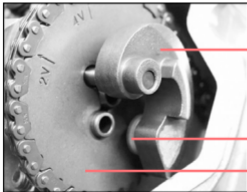

Fig. 6
- Slide off the eccentric mass **(Fig. 6 - part. 9)**, and be careful not to loose the little ring on this mass **(Fig. 6 - part. 10) (Fig. 7 - part. 11)**.
- Remove the crown gear attached to the camshaft **(Fig. 6 - part. 12)**, and slide off